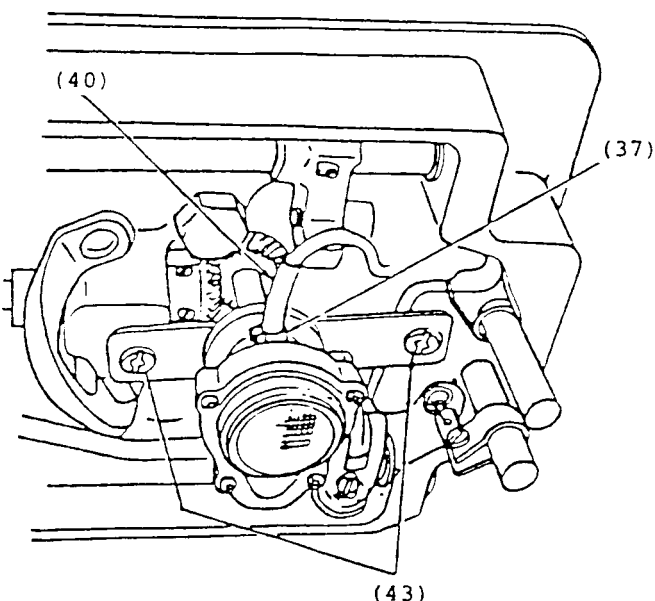

Fig. 20
2. Replace the two oil pump screws (43), Fig. 20. Make certain that machine turns freely as screws are tightened.
3. Replace oil tubes (40), (41) and (42), pushing them as far as they will go on each respective nipples provided for them on the oil pump while holding the oil tube clamps (37), (38) and (39) open as instructed under oil pump removal.